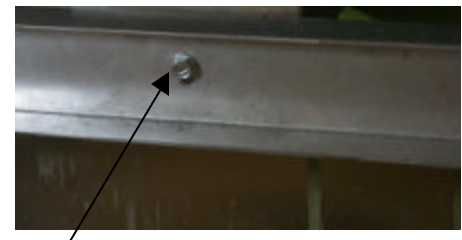

Fig: 10-19
10. Remove screw at front of fryer that holds frypot in place. **Fig: 10-19.**